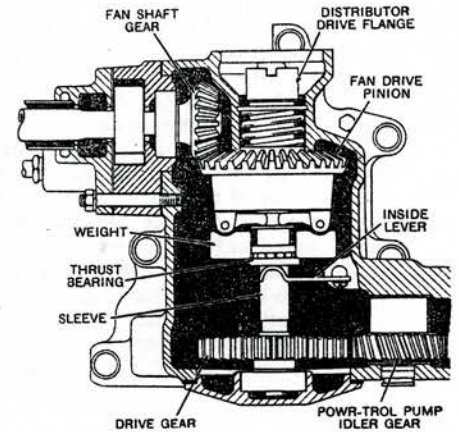

Fig. 20A Cutaway view of Model 60 governor. Model 50 is similar
**MODELS 50, 60**—The governor is a gear-driven, centrifugal, fly-weight type having two weights suspended on a weight carrier fixed to the governor pinion, Fig. 20A.
**MODELS 50, 60**—If a new fan drive pinion and gear have been installed in the governor, Fig. 20A, or if the shim pack between the rear bearing housing and governor case has been disturbed, it will be necessary to adjust the gear and pinion for backlash and heel, Fig. 20B.